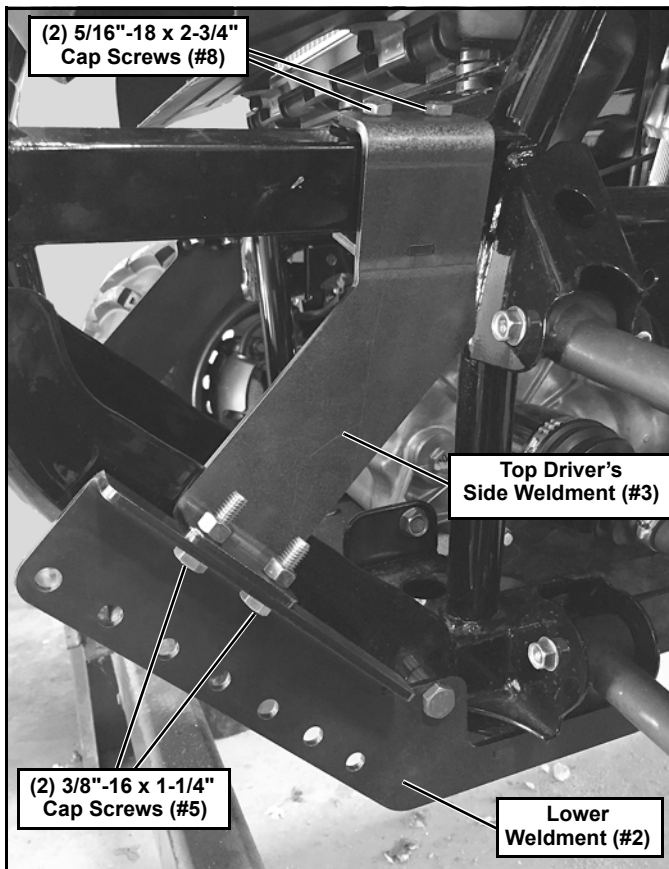

Figure 4
- Place the U-shaped section of the Top Driver's Side Weldment (#3) over the frame where the brush guard is connected. The holes in the top of the Top Driver's Side Weldment (#3) align with the holes where the hardware was removed in step 5. (See Figure 4.)
- Insert (2) 5/16"-18 x 2-3/4" Cap Screws (#8) through the top holes of the Top Driver's Side Weldment, frame, and brush guard. Secure with (2) 5/16"-18 Lock Nuts (#9). (See Figure 4.)
- Insert (2) 3/8"-16 x 1-1/4" Cap Screws (#5) through the top holes in the Lower Weldment (#2) and into the bottom holes of the Top Driver's Side Weldment (#3). Secure with (2) 3/8"-18 Lock Nuts (#7). (See Figure 4.)